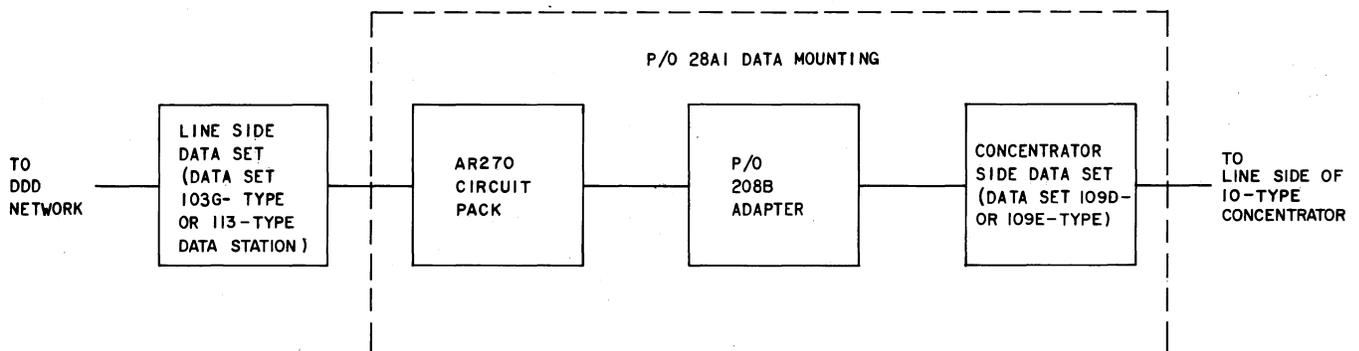

Fig. 1—Block Diagram of DATA-PHONE Interconnection Arrangement for Line Side of 10-Type Data Line Concentrator
1.02 One such arrangement (Fig. 1) consists of a Data Set 109D- or E-type (concentrator side data set), a Data Set 103G- or 113B-type (line side data set), an AR270 circuit pack, a 208B adapter, and a 28A1 Data Mounting. The 28A1 Data Mounting is capable of accommodating the Data Sets 109-type and AR270 circuit packs for up to eight of these arrangements.